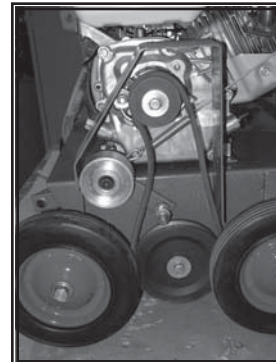

Fig.7: Correct drive belt placement
4. Check that both 2.5" and 5" pulleys are aligned with each other. Install new v-belt (ENLC52-30) by looping over 5" v-pulley on the bottom first, then over 2.5" v-pulley on top. Ensure that belt is in proper position inside both belt idler and keeper. (Fig.7 & 8)